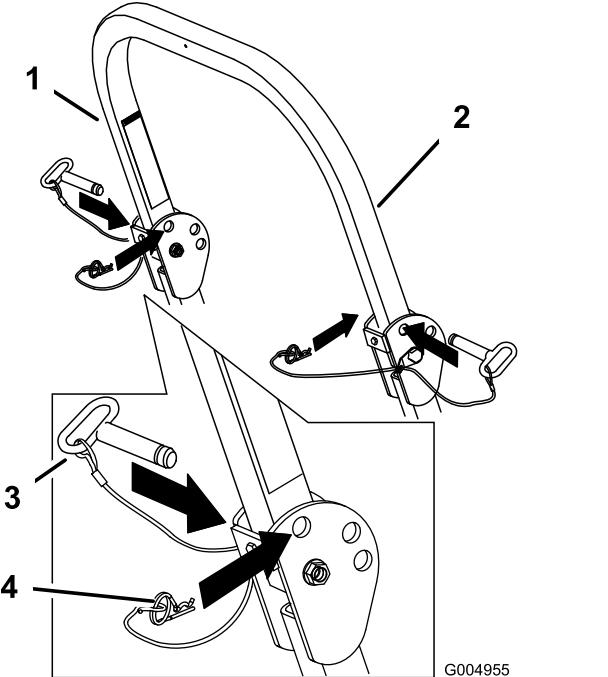

Figure 9
1. Remove the hairpin cotters and remove the 2 pins (Figure 9).
3. Install the 2 pins and secure them with the hairpin cotters (Figure 9).
2. Raise the roll bar to the upright position, install the 2 pins, and secure them with the hairpin cotters (Figure 9).